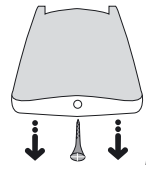

Fig. No. 3
3. Remove the front cover of the device (containing the detector lens) by removing the screw at the base (see Fig. No. 3).